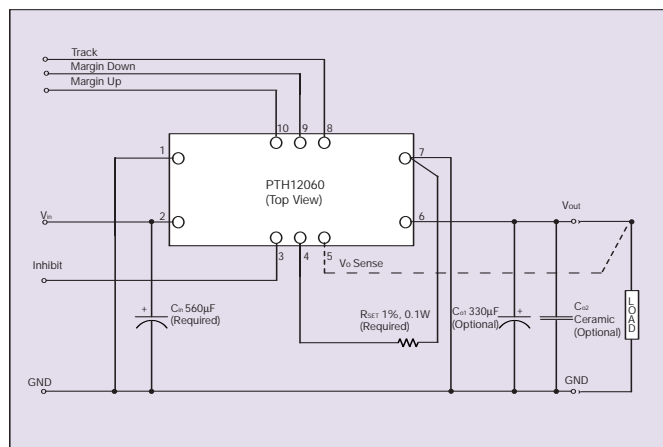

Figure 5 - Standard Application - All Models
- The pk-pk output ripple voltage is measured with an external 10  $\mu F$  ceramic capacitor. See Figures 5 and 8 for Standard application schematic.